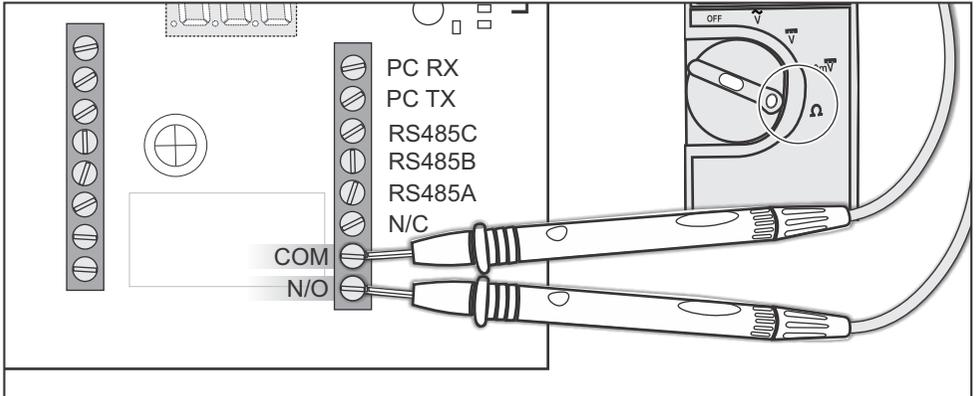

Figure 4 Multimeter connected to COM & N/O
7. Connect the multimeter to (COM and N/O) as indicated in figure 4.